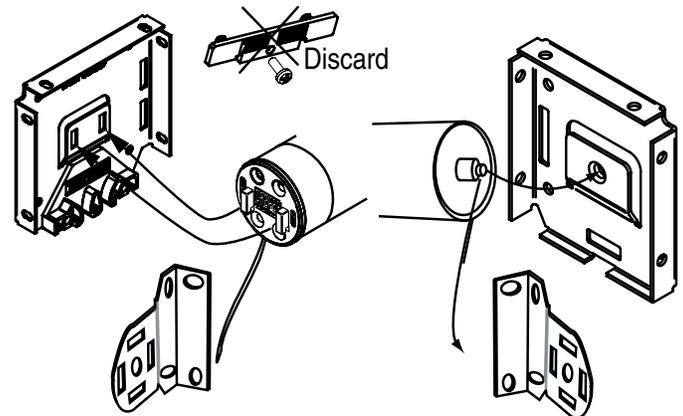

Figure 4
- ① Place operator (motor) end notches into slots on bracket, then depress spring-loaded pin on idler end and place in hole in endcap (See Fig. 4). Discard the chain guide cover and screw included in the hardware bag.